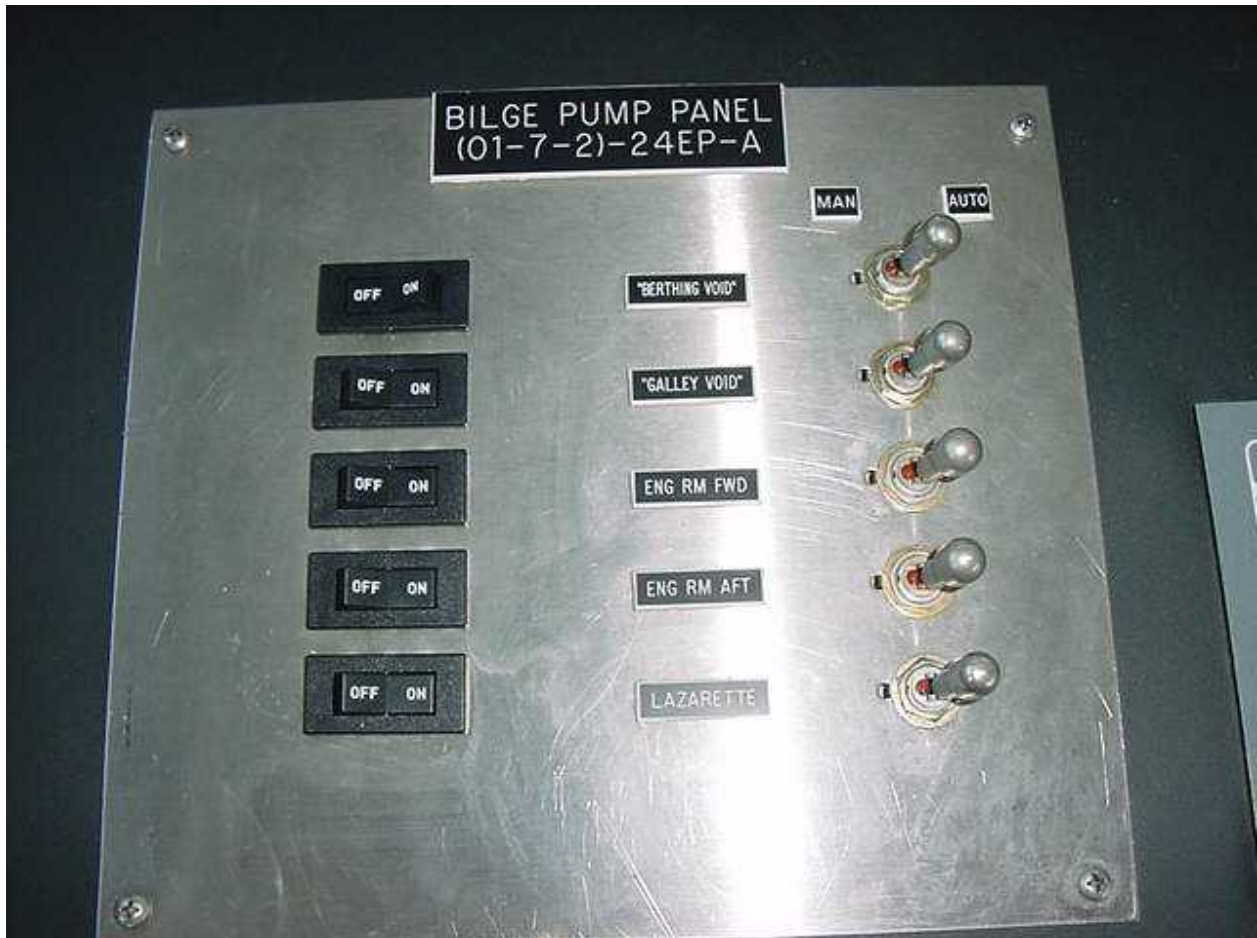

Figure 3-48
O.1. General The bilge system (**figure 3-48**) consists of installed bilge pumps, float switches, and a bilge pump control panel. The system is designed to remove small amounts of water that occur due to condensation, small leaks, or water used to clean decks and other surfaces.